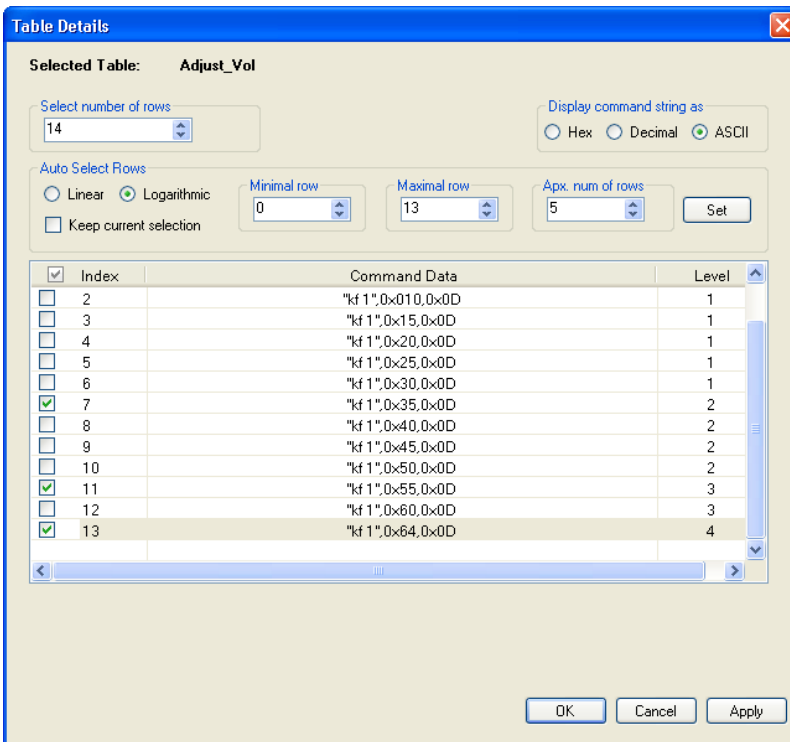

Figure 148: Setting the LED Levels
3. Select None if you do not want the LEDs to behave as defined in the commands table (see Figure 148), or select the RC device whose LEDs should behave as defined in the table: